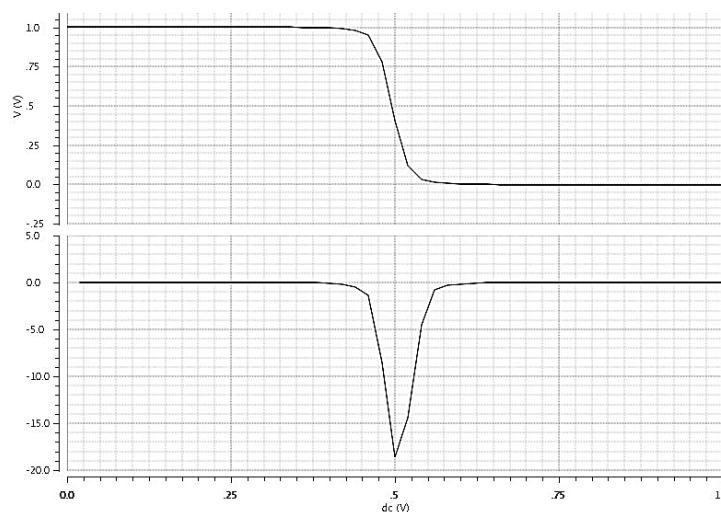

Figure 4.9: DC Plot with derive function
- (f) Click **Evaluate buffer**, which results in Fig.4.9.